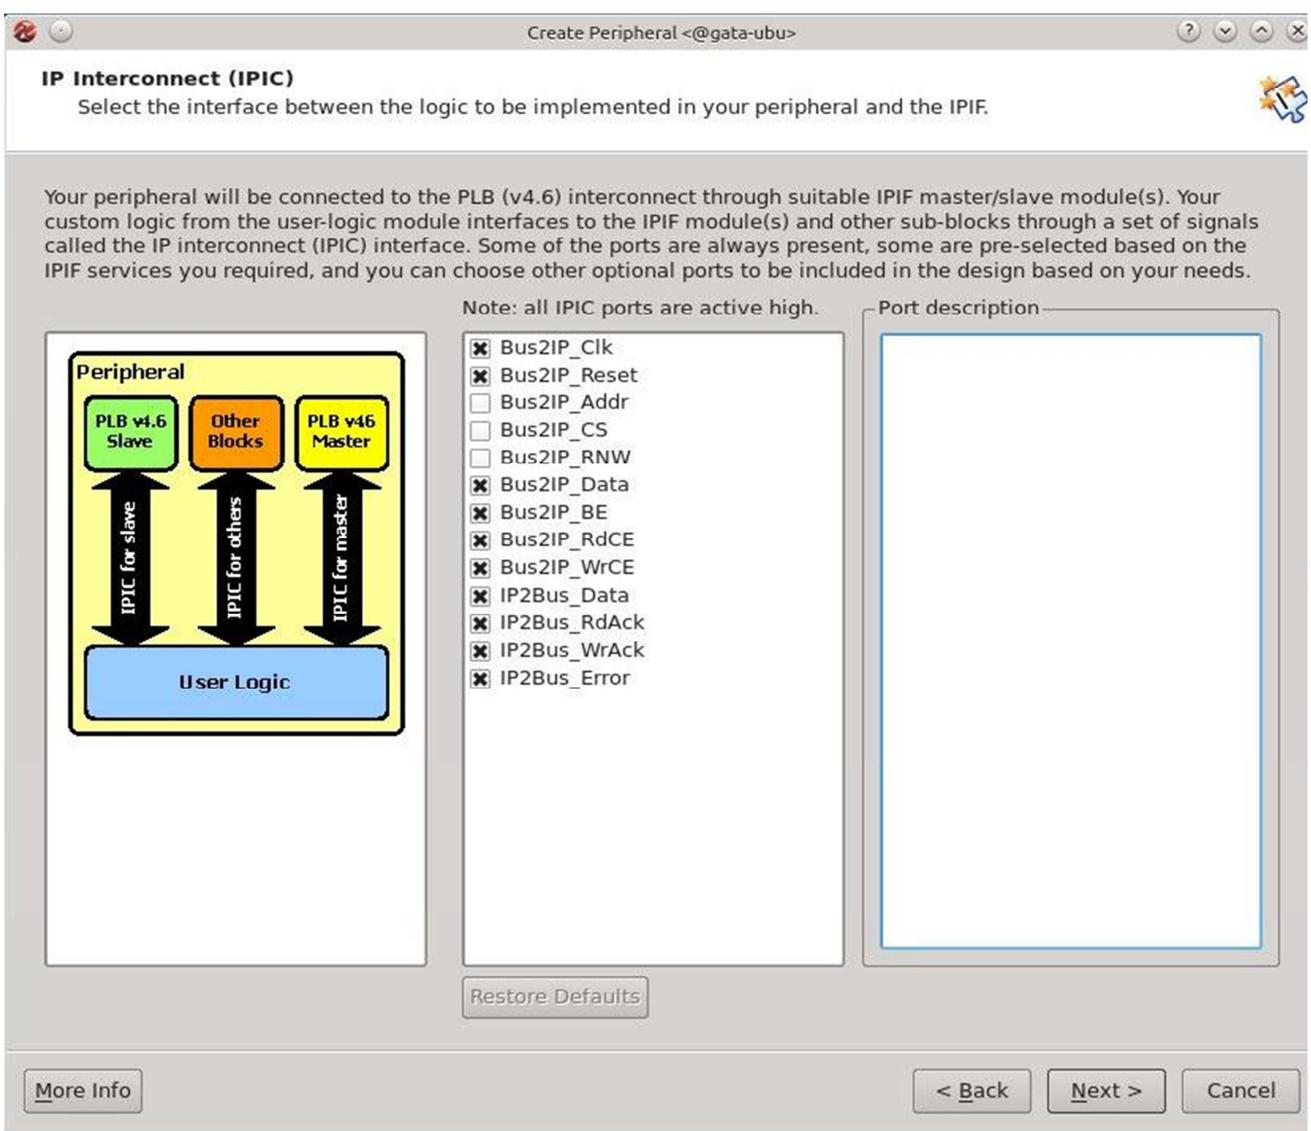

Figure 10: Create and Import Peripheral Wizard (Step 9)
Step 9: After setting the core configuration and internal components, the wizard window shown in **Figure 10** allows you to change the interface between your new added logic (IP) and the bus interface. The wizard will create the bus interface for you and then create a **usr_logic** module that contains all the logic selected by you in the wizard. This screen allows you to change the signals between the bus interface and your user logic. Press “**Next**” to continue.